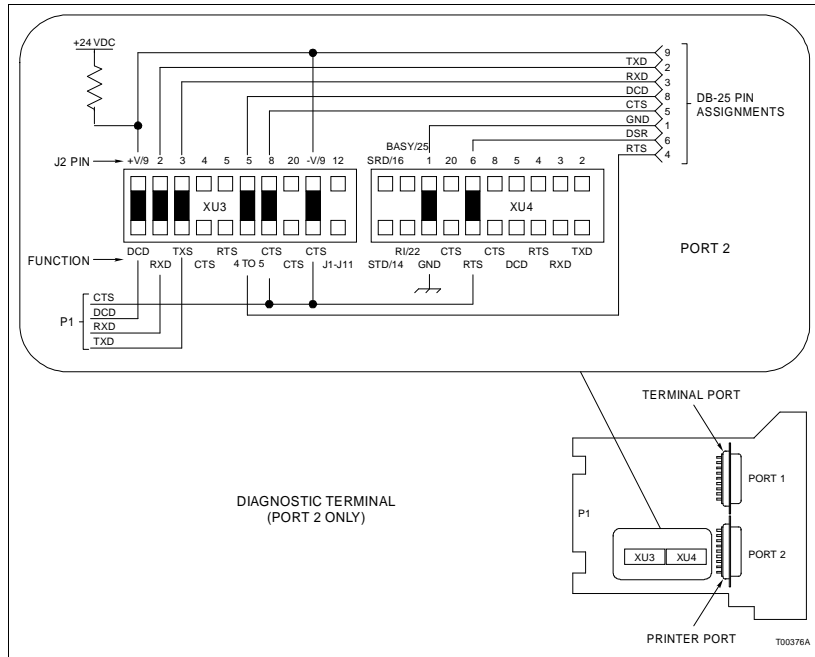

Figure 2-10. Dipshunt Configuration for Diagnostic Terminal (PPT module)
3. To connect a diagnostic terminal to the INPPT01 module, use port two on the IMF module and the dipshunt settings shown in Figure 2-10.